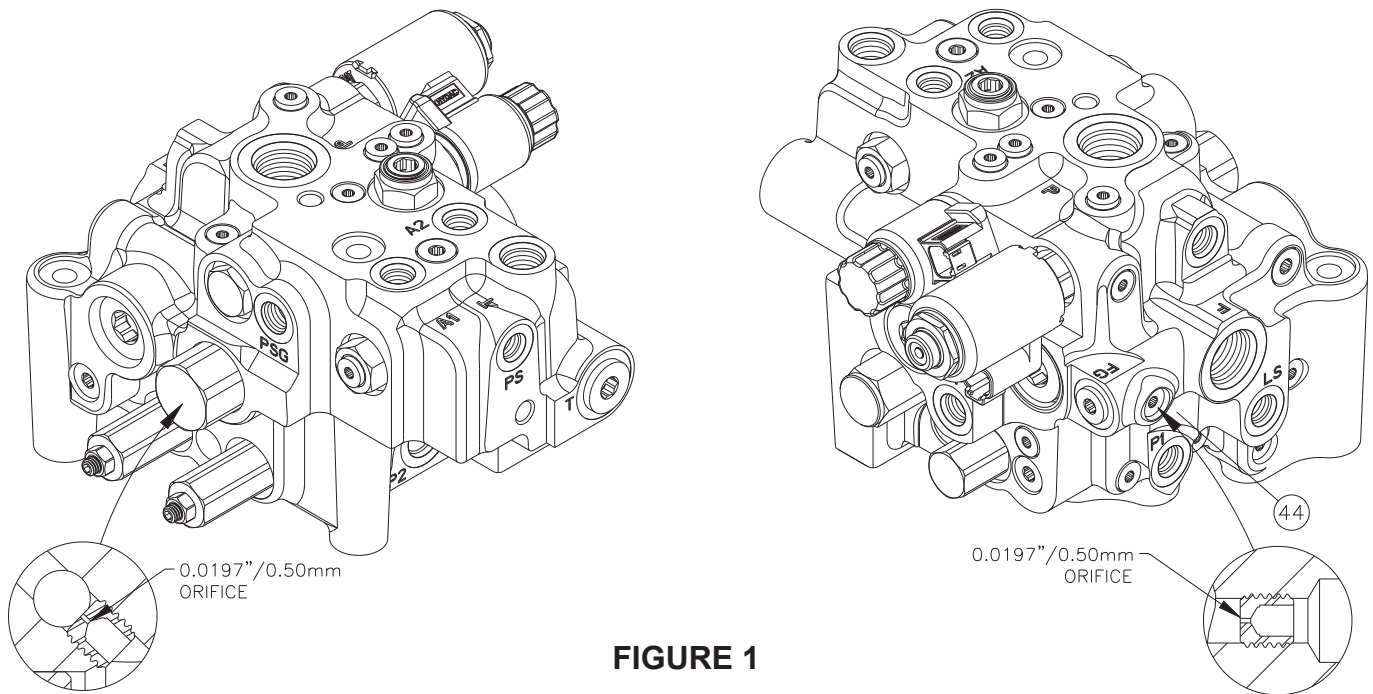

FIGURE 1
This literature services similar designs of this charging valve. The components shown in Figures 1 and 2 may appear different than what is found in your valve.
1. Inspect internal orifices shown in Figure 1 on page 3 to be sure they are free of obstruction or contamination. Introduce pressurized air into these cavities to clear any contamination or debris. **NOTE: Do not attempt to remove the screw-in orifices.**
2. Install new o-ring (32) on plug (44). Install plug (44) in housing (45), cavity 8. Torque plug (44) 13.6-19.0 N·m (10-14 lb·ft).
3. Install new o-ring (32) on plug (43). Install new poppet (41), spring (42), and plug (43) in sleeve (40). Note direction of poppet (41). Torque plug (43) 13.6-19.0 N·m (10-14 lb·ft).